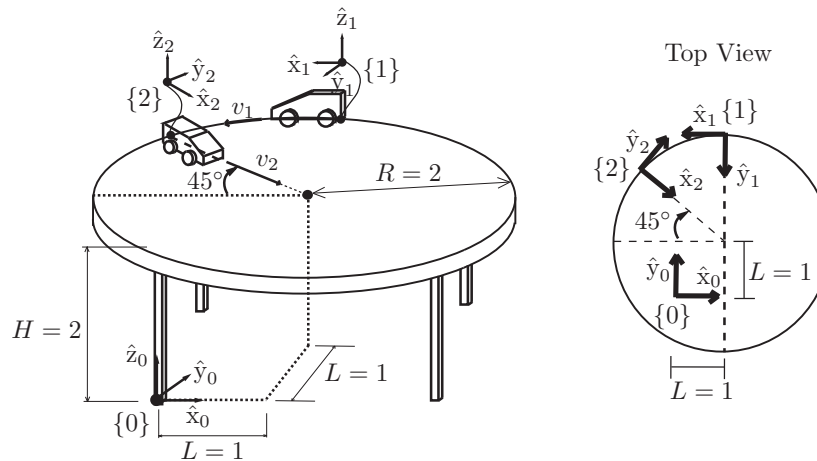

Figure 1: Two toy cars on a round table.
- (2/10) Two toy cars are moving on a round table as shown in Figure 1. Car 1 moves at a constant speed  $v_1$  along the circumference of the table, while car 2 moves at a constant speed  $v_2$  along a radius; the positions of the two vehicles at  $t = 0$  s are shown in the figures. Find  $T_{01}$  and  $T_{02}$  in terms of  $t$ .